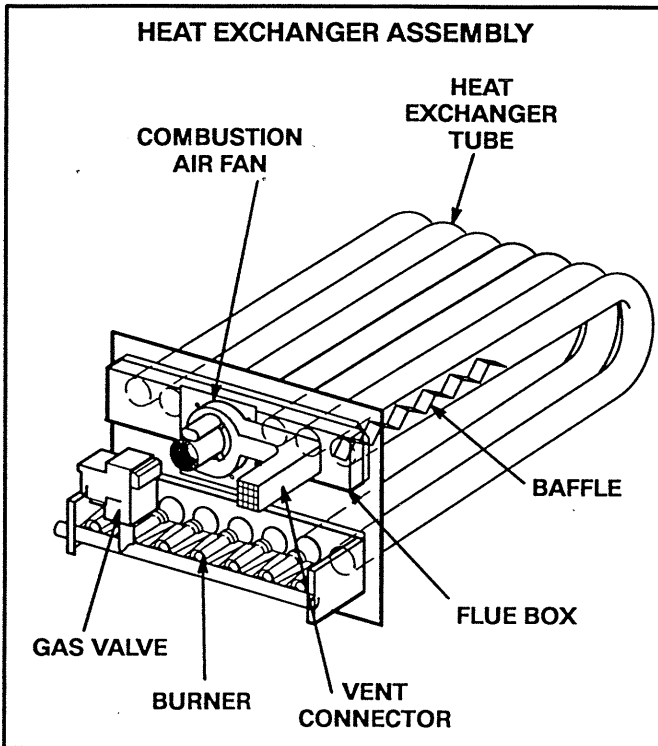

FIGURE 16
- 3- Remove and retain screws securing combustion air fan to flue box. Remove and retain two screws from bracket supporting vent connector. See figure 16.